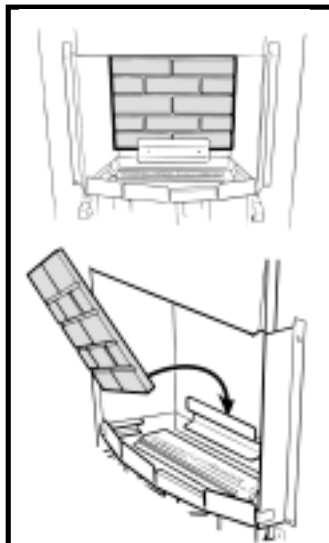

Fig. 18 Ceramic rear wall installation
11.1 With its feather edge at the top, place the ceramic rear wall into the channel at the back of the firebox. Push the wall flat against the rear of the fire box. (See figure 18).